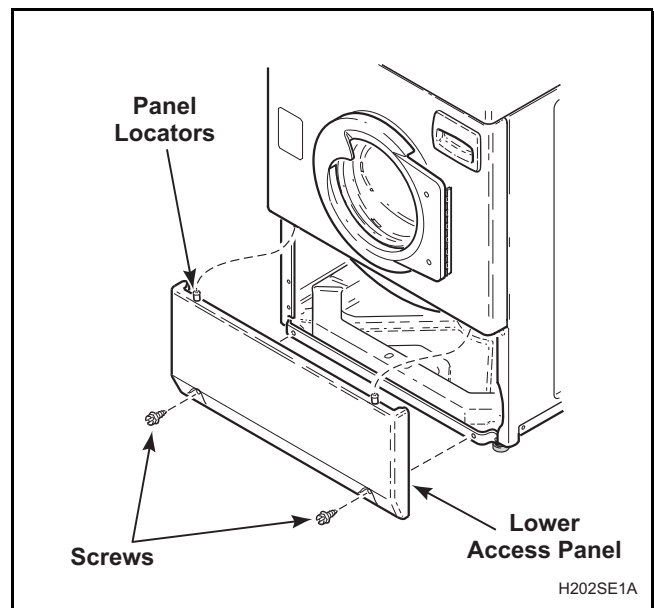

Figure 26
- While supporting the lower access panel, remove two screws from bottom edge of lower access panel. Refer to *Figure 26*.
- While supporting lower access panel, remove two screws from bottom edge of lower access panel. Refer to *Figure 26*.